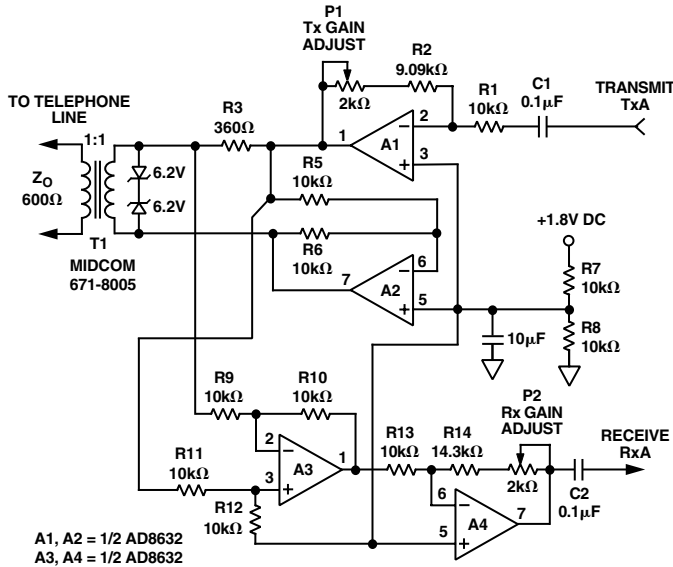

Figure 31. A Single-Supply Direct Access Arrangement for Modems
Figure 31 illustrates a 1.8 V transmit/receive telephone line interface for 600  $\Omega$  transmission systems. It allows full duplex transmission of signals on a transformer-coupled 600  $\Omega$  line in a differential manner. Amplifier A1 provides gain that can be adjusted to meet the modem output drive requirements. Both A1 and A2 are configured to apply the largest possible signal on a single supply to the transformer. Amplifier A3 is configured as a difference amplifier for two reasons: (1) It prevents the transmit signal from interfering with the receive signal and (2) it extracts the receive signal from the transmission line for amplification by A4. A4's gain can be adjusted in the same manner as A1's to meet the modem's input signal requirements. Standard resistor values permit the use of SIP (Single In-line Package) format resistor arrays. Couple this with the AD8631/